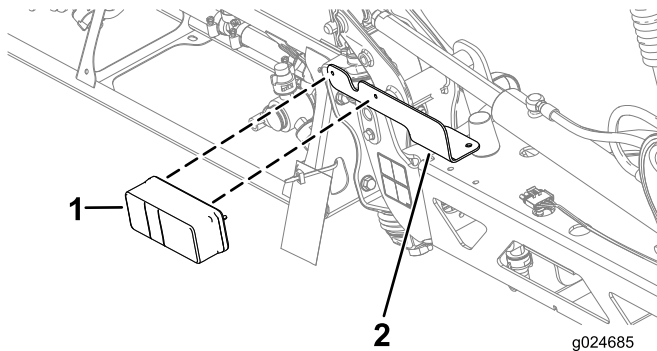

Figure 11
4. Align the rear-light assembly to the rear-light bracket with the amber-lens outboard (Figure 11).